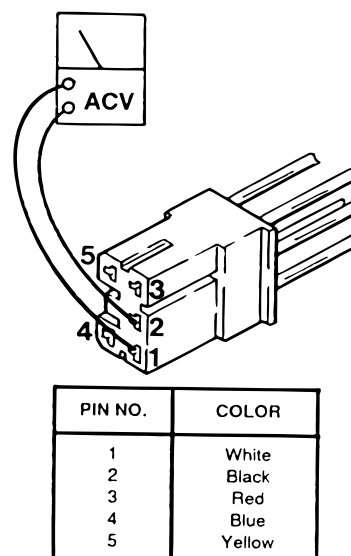

Figure 6-3. Connector CN4
3. Use an AC voltmeter capable of measuring 120VAC and measure the voltage between pins 1 and 2 (black and white wires) located in connector CN4. See figure 6-3. You should receive line voltage 120VAC.